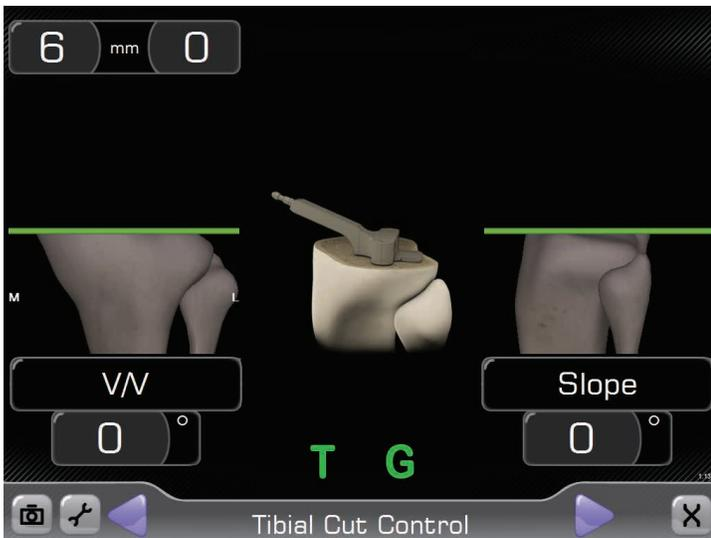

Figure 46
- Advance to the Tibial Cut Control screen (*Figure 46*).
- Remove Guide Tracker (G) from Adjustable Module.